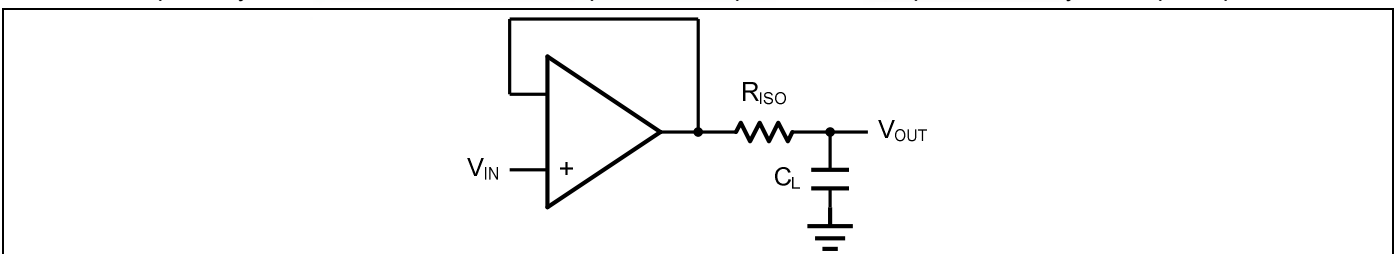
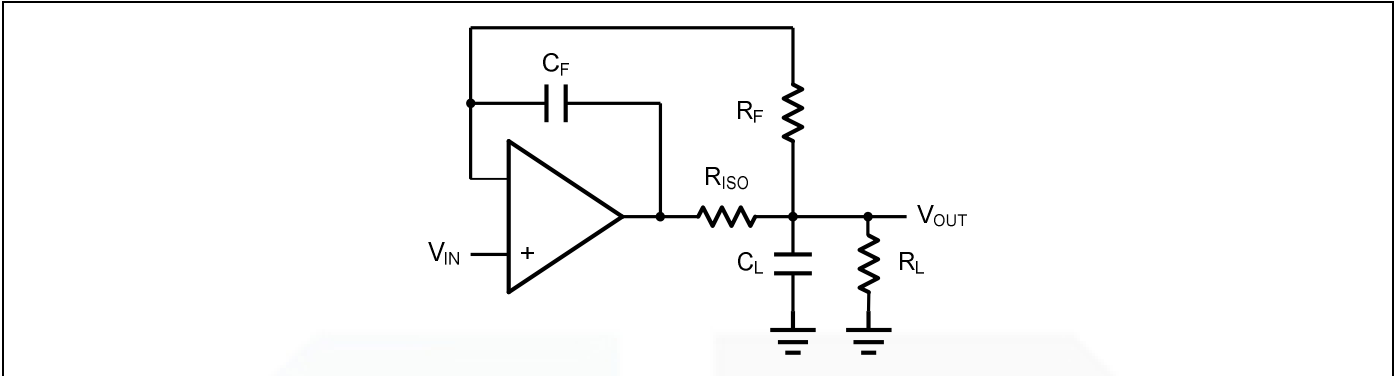

Figure 2. Indirectly Driving a Capacitive Load Using Isolation Resistor
Figure 3. Indirectly Driving a Capacitive Load with DC Accuracy
The GS6041 family is optimized for bandwidth and speed, not for driving capacitive loads. Output capacitance will create a pole in the amplifier's feedback path, leading to excessive peaking and potential oscillation. If dealing with load capacitance is a requirement of the application, the two strategies to consider are (1) using a small resistor in series with the amplifier's output and the load capacitance and (2) reducing the bandwidth of the amplifier's feedback loop by increasing the overall noise gain. Figure 2. shows a unity gain follower using the series resistor strategy. The resistor isolates the output from the capacitance and, more importantly, creates a zero in the feedback path that compensates for the pole created by the output capacitance.
The circuit in Figure 3 is an improvement to the one in Figure 2. R_F provides the DC accuracy by feed-forward the V_{IN} to R_L . C_F